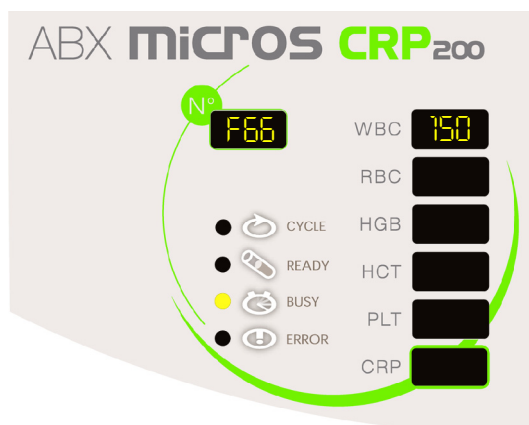

Fig.1: WBC bubbling display
- ◆ Run F[66] function (See "Fig.1: WBC bubbling display, page 2"):